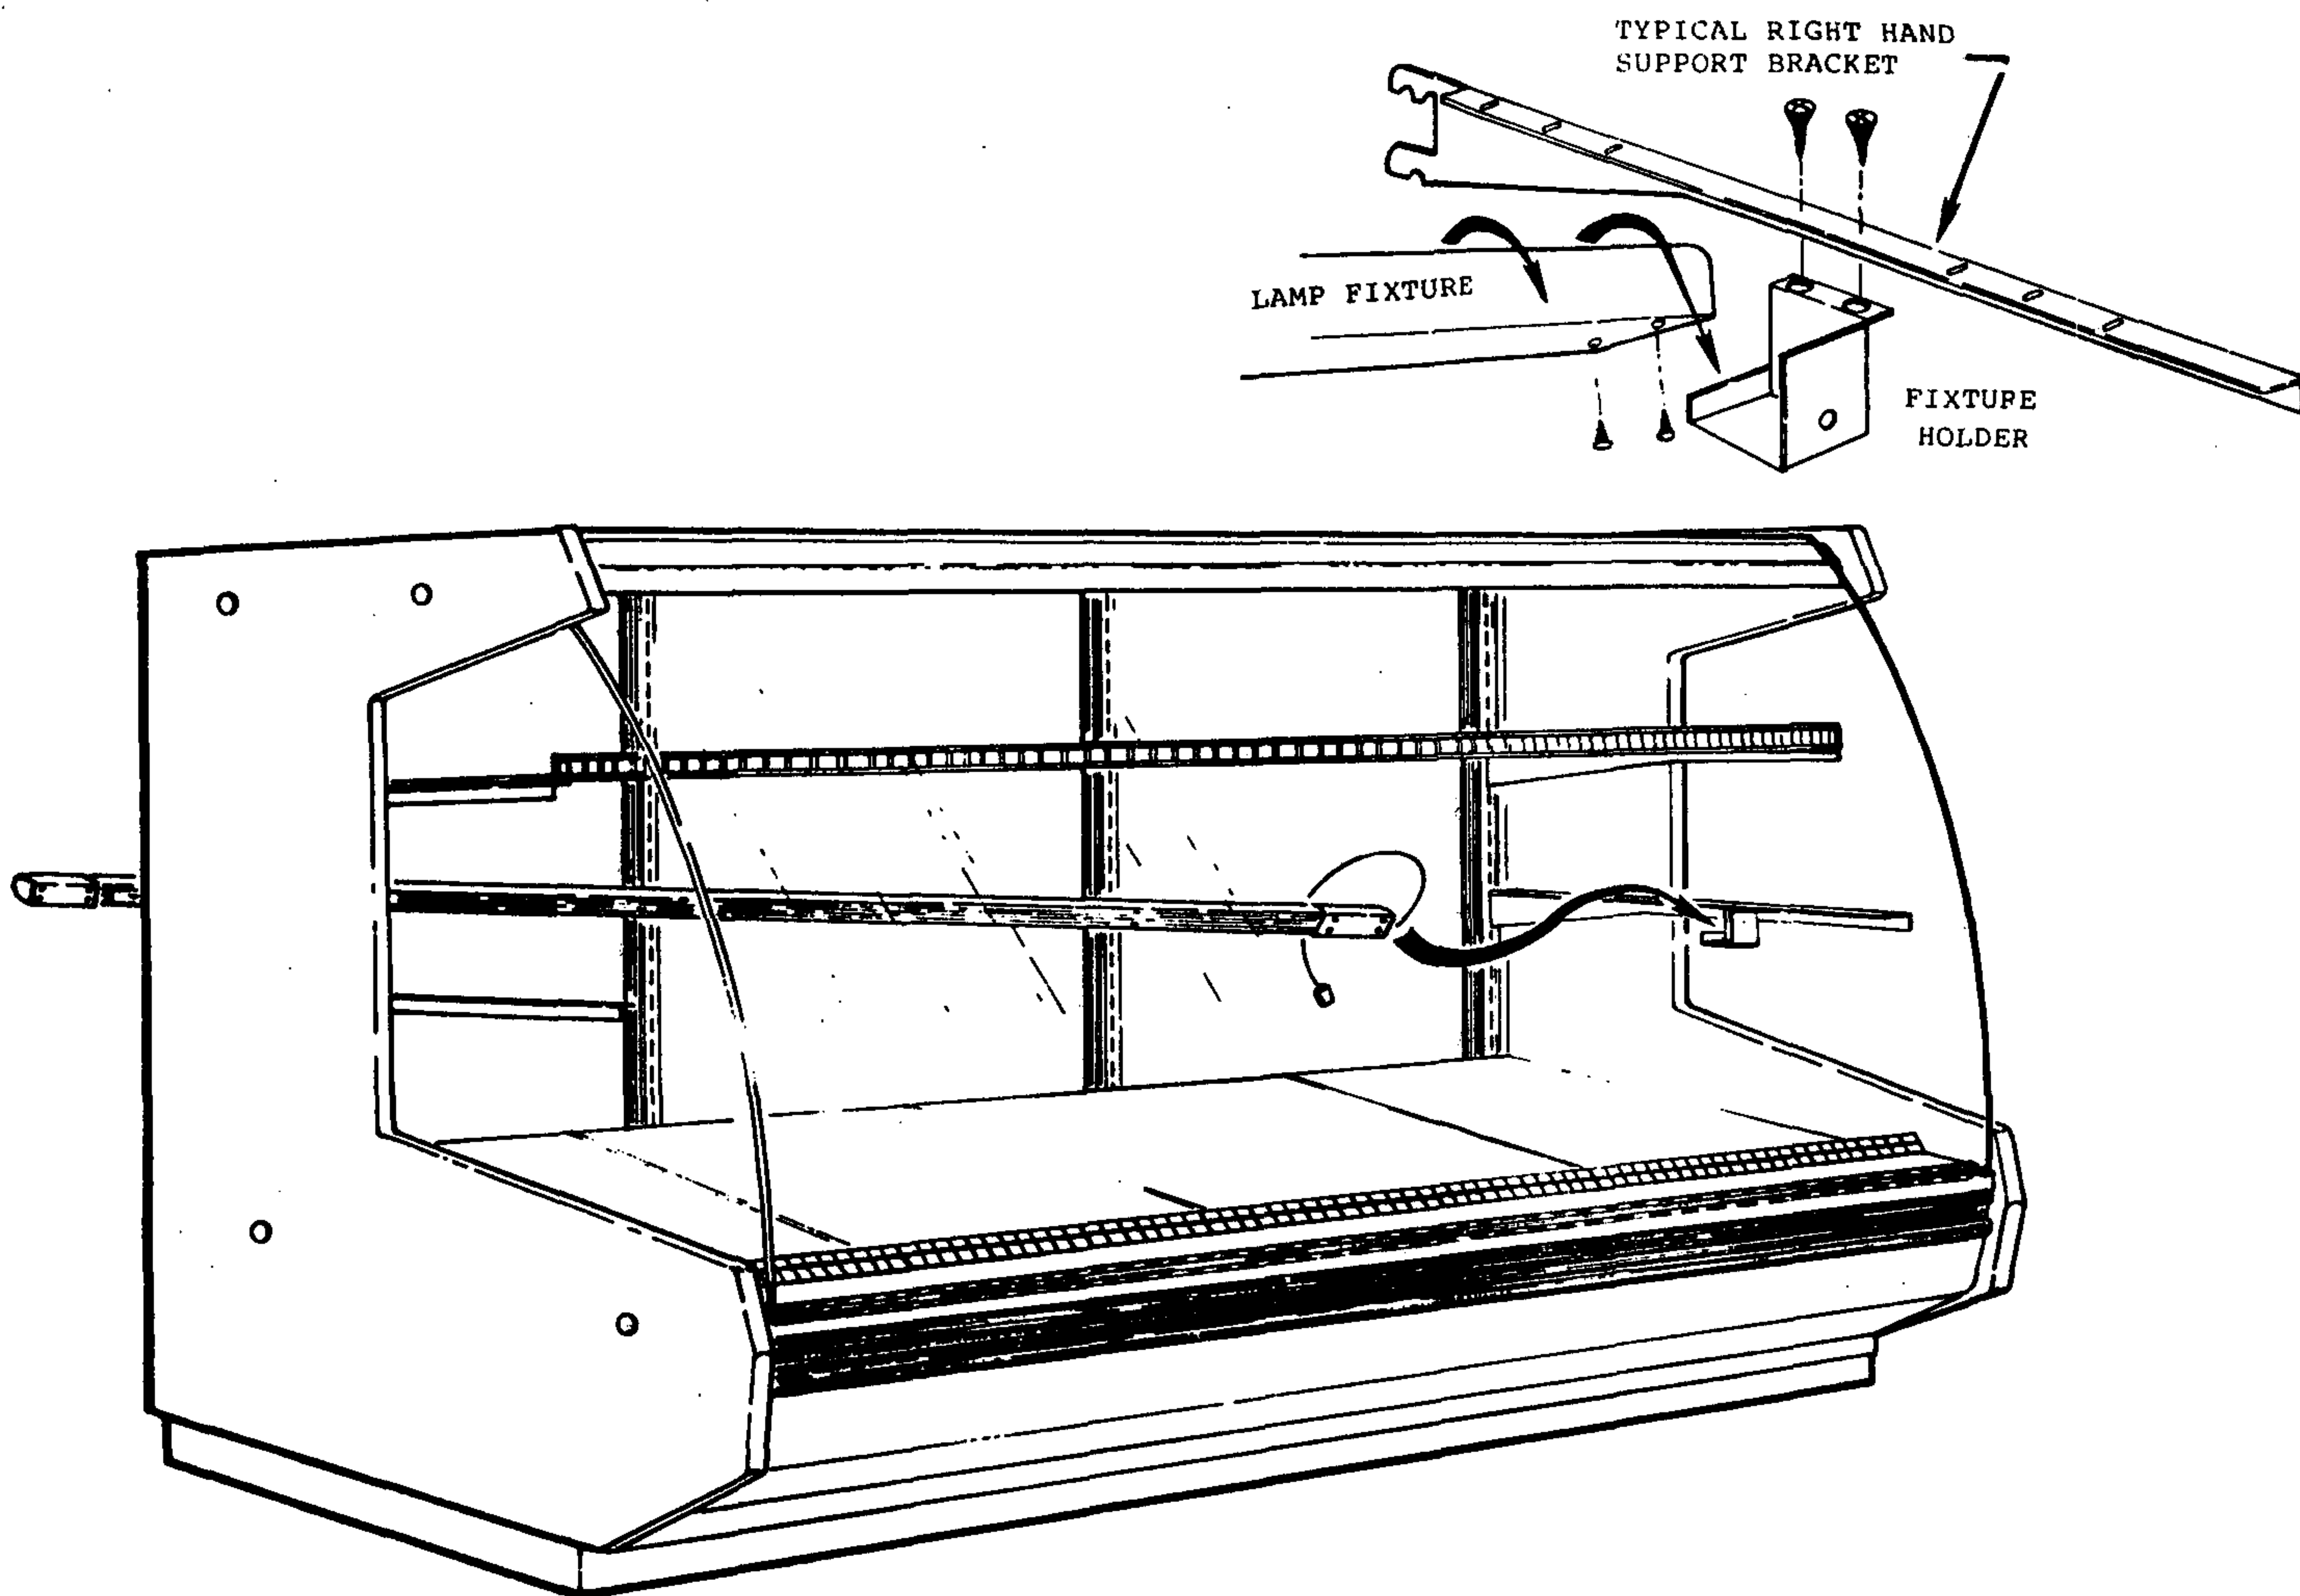

Figure 6-1 Installing Optional Display Shelf Lighting
- 5) Insert the fixture into the case through either the right or left rear service doors. Care should be taken so that the fixture does not strike internal case parts. See Figure 6-1
2. Disconnect the proper light fixture by removing the fixture power cord from the socket in the right rear interior corner of the case. (See Figure 6-1).